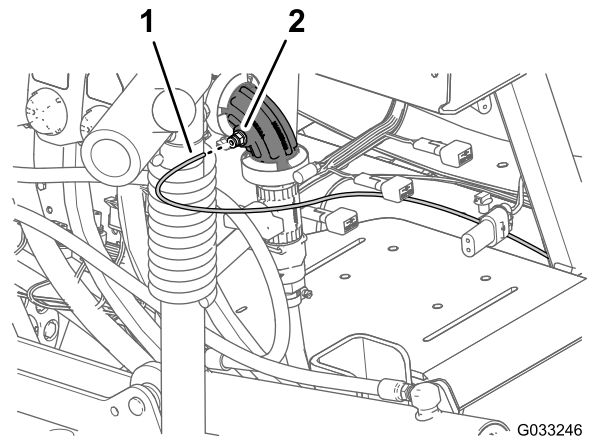
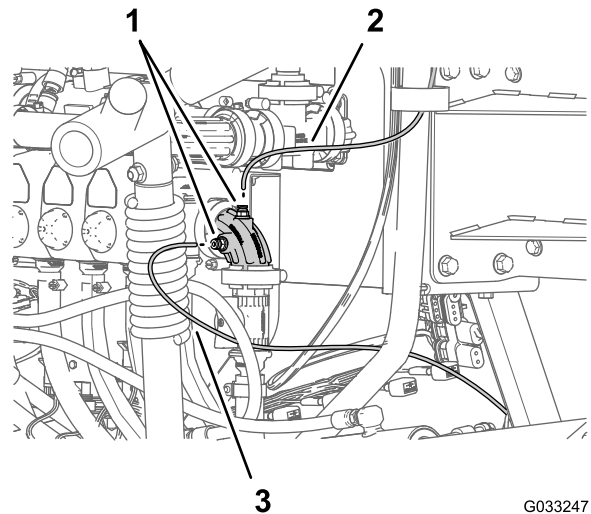

Figure 140
Figure 141
1. Align the end of the pressure-sense tube (plastic) for the pressure gauge in the dash with the locking collar for the tube coupler (Figure 140 and Figure 141).
2. Insert the sense tube into the locking collar until the tube fully seats (Figure 140 and Figure 141).